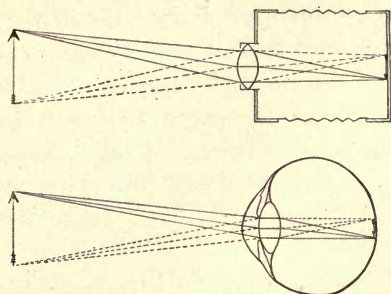

FIG. 213.—Two Cameras.
**How the Eye Does its Work.** — The human eye resembles a camera in many essential respects. It contains a focusing lens, the crystalline lens, the iris, which acts as a shutter, and the retina, which takes the place of the camera film or sensitive plate (Figure 213). The eye, however, is vastly superior to the camera. The focusing organs of the eye possess the power of accommodating